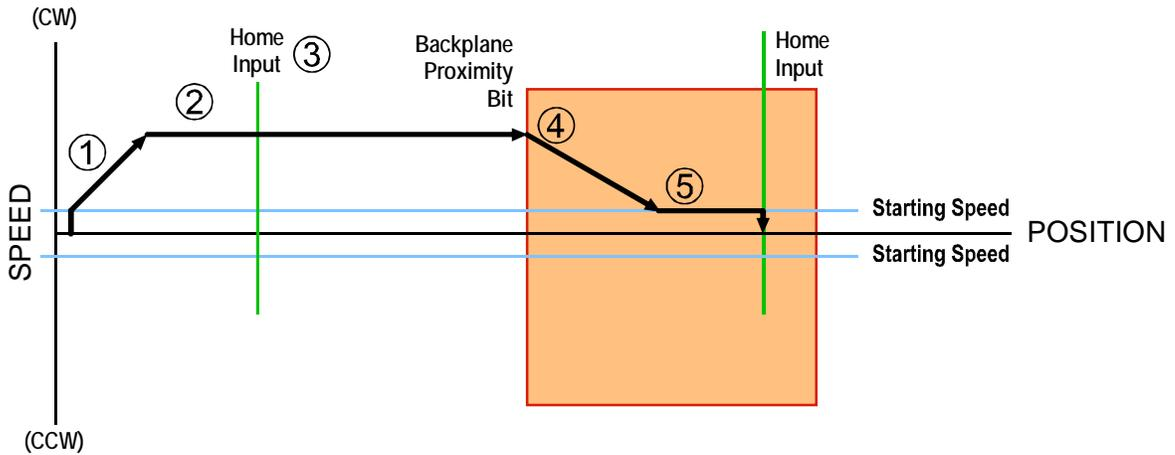

Figure 3.2 Homing with Proximity
Figure 3.2 below shows the move profile generated by a +Find Home command when you use:
**NOTE** Figure 3.2 shows the Backplane Home Proximity Bit staying active until the 3602 reaches its home position. This is valid, but does not have to occur. As stated in step 4, the 3602 starts to hunt for the home position as soon and the Backplane Home Proximity Bit makes a 0→1 transition
Panel mounting is the required mounting method for environments where the system will be exposed to high shock and/or vibration values. Use figure 3.2 to design a template to mount your system. Note that dimensions for each MicroLogix PLC are specific to each model number so you must refer to the PLC documentation to determine those dimensions.